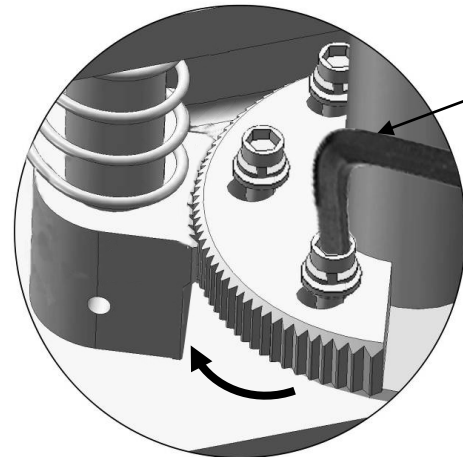

Fig. 26
4. Adjust moon gear and arm lock to make it to be meshed, then tighten the nut of arm lock (**See Fig. 26**).